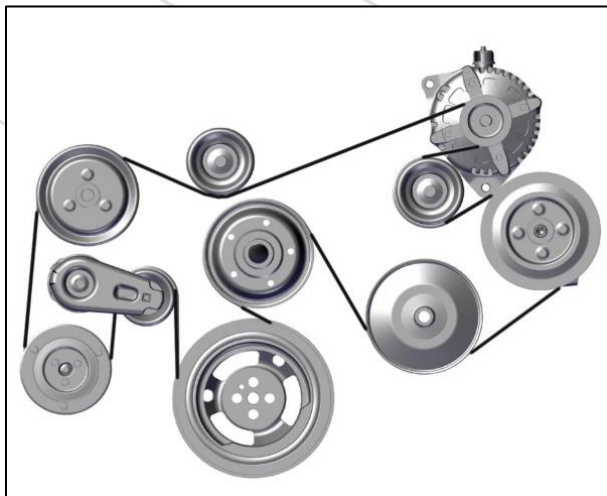

Figure 15: Belt Layout (Single Alternator)
**27. Release tension on the accessory belt (Figure 15) & remove the serpentine belt.**
**14. Install the accessory belt. Exercise caution to ensure the belt seats properly on all pulleys (Figures 15 & 16).**